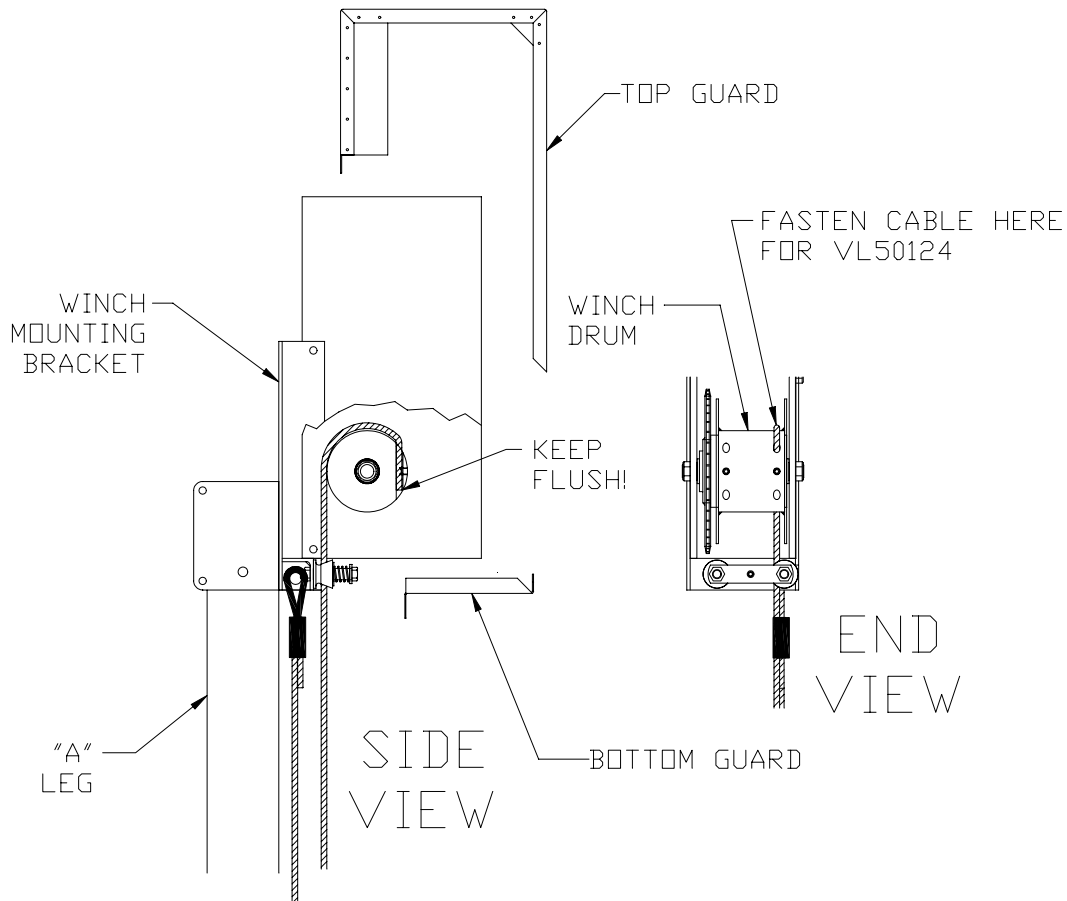

Figure 3-10
2. Refer to Figure 3-10 and Winch exploded view drawing in appendix. Fasten “ dead end “ winch cable loop to bottom right hand side of winch mounting bracket.
3. Remove the top and bottom guards from the winch housing by removing the (4) ¼ -20 pan head screws.
5. Starting from the bottom of winch, reeve the cut end of cable between the cable guide roller assembly, and up the backside of winch. Wrap the cable over the top of winch drum, inserting cable into the hole on the RIGHT SIDE of drum as shown in Figure 3-10. **Keep the cable flush with the drum wall.**